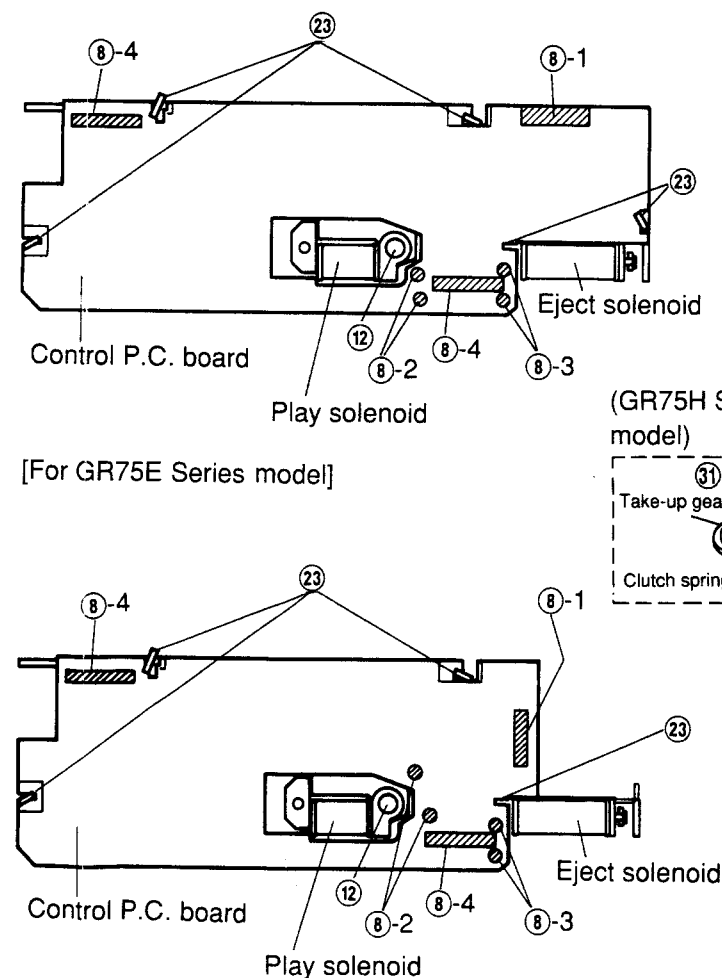

Figure 11
- (2) Remove solder ⑧-1, and remove the parallel wire (5P) from the control P.C. board as shown in Figure 11.
- (1) Remove the two solders ⑧-2 as shown in Figure 11.
- (2) Remove one screw ⑫ and remove the solenoid as shown in Figure 11.
- (3) Mount the new solenoid following the removal steps in the reverse order.
- (1) Remove two solders ⑧-3. Take care not to loose the tube that protects the wire. (Refer to Figure 11.)
- (1) Remove seven solders ⑧ and remove the three parallel wires and the wires of the eject solenoid and of the play solenoid as shown in Figure 11.
- (2) Remove five claws ②③ and remove the P.C. board as shown in Figure 11. [For GR75E Series model] Remove four claws ②③ and remove the P.C. board as shown in Figure 11. [For GR75L Series, GR-Y Series, GR75H Series models]
- (3) After replacing the old P.C. board with a new one, mount it following the removal steps in the reverse order.